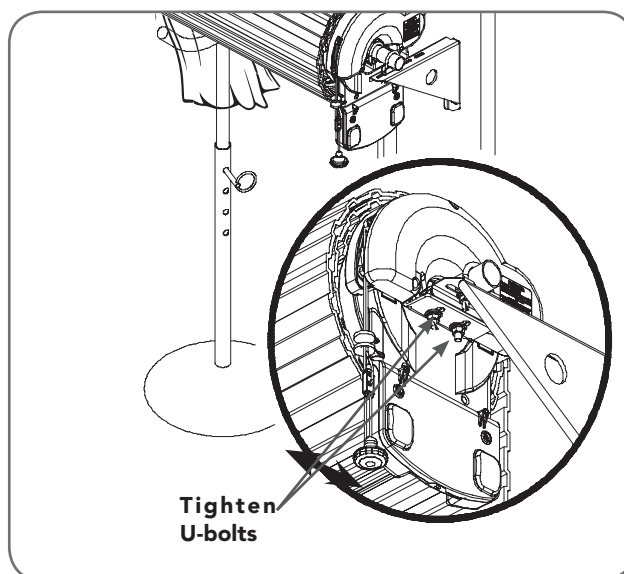

Fig. 6.5.3
- Refit the U-bolt and nuts and tighten (Fig 6.5.3).